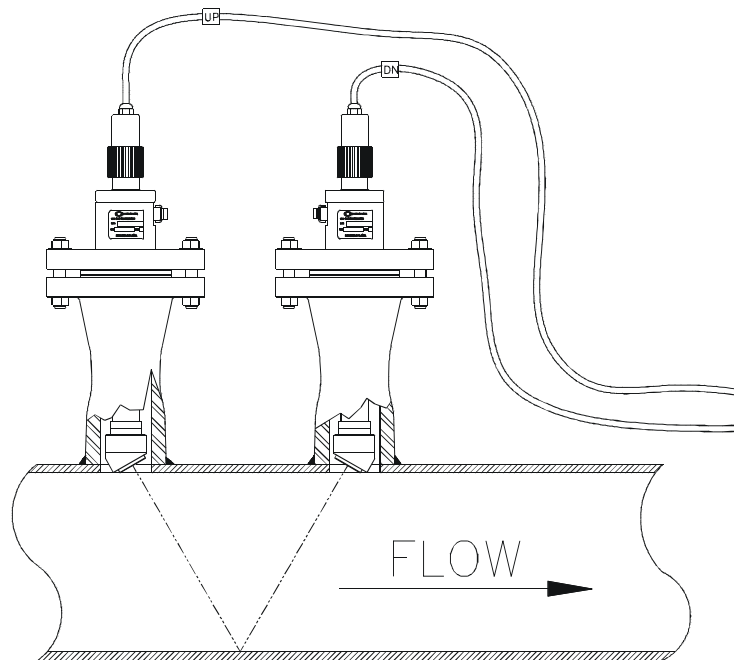

**FIGURE 3. TRANSDUCER ALIGNMENT**
- Step 2. Locate the alignment screw on the transducer (if applicable). When angled head transducers are installed the alignment screw for the upstream transducer should be facing downstream (along the axis of the pipe) and the alignment screw for the downstream transducer should be facing upstream (see Figure 3 below).